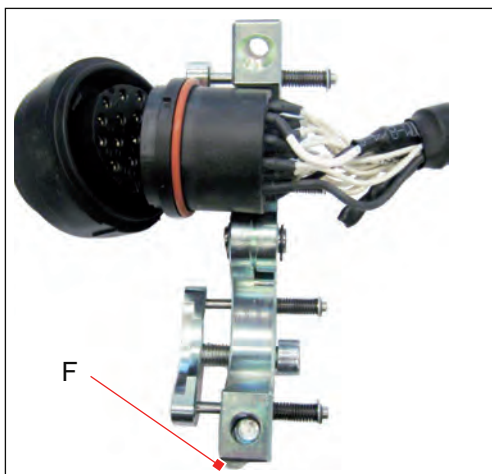

Fig. 17: Remove pull off tool
- ▶ To remove the pull off tool, release screw (F) and open the clamp (Fig. 17).